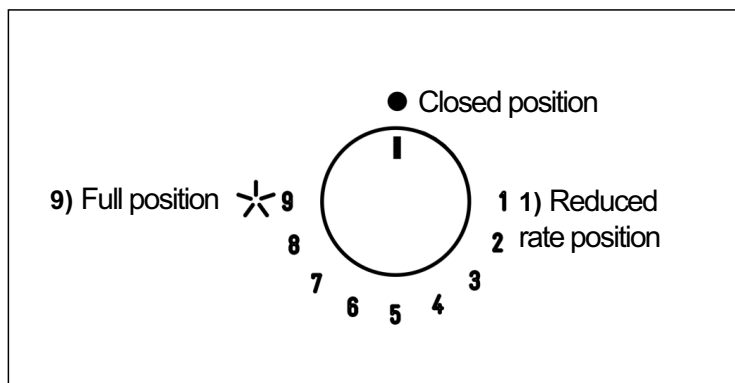

FIG. 1
Push and turn the knob corresponding to the required burner in an anticlockwise direction until it reaches the full on position of full  (position 9 fig. 1), then depress the knob, the tap is equipped with a scale of 9 positions, with each click the flame is reduced until you reach the position of 1, ie the minimum supply of gas.
The knobs of burners equipped with flame failure device must be turned in an anticlockwise direction until they reach the full on position (Position 9, fig.1) and come to a stop. Now depress the knob in question and repeat the previously indicated operations.
- When the pan comes to the boil, set the knob to the reduced rate position (Position 1, fig. 1).
- **Burners with flame failure device may only be ignited when the relative knob has been set to the Full on position (Position 9, fig. 1).**